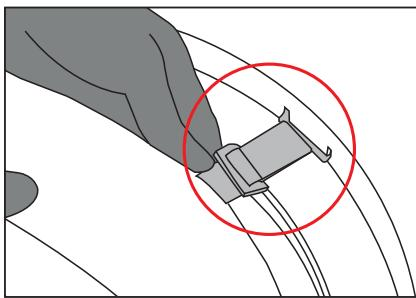

Figure 4.3
- Next, on the rear of the seat there are five straps. Starting with one of the two straps on the outside, feed the strap through the slot in the back of the walker. See Figure 4.3.